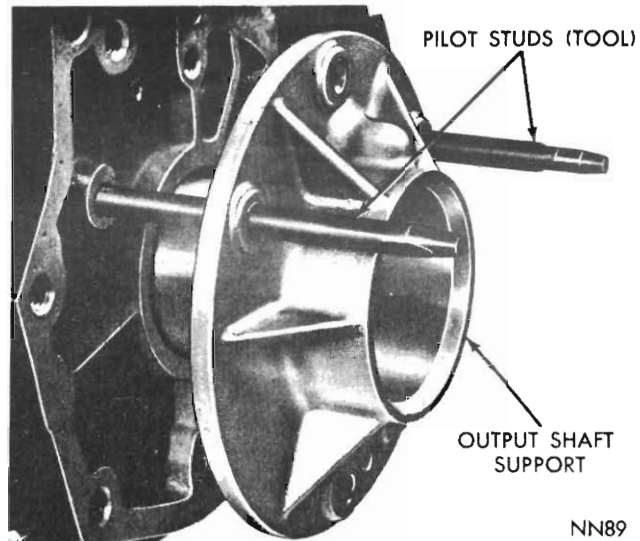

Fig. 89 - Installing output shaft support (A-904)
(7) Screw two pilot studs, Tool E21C35C, into the case (Fig. 89). Chill the support with ice (preferably dry ice). Quickly position support over the pilot studs, and drive it firmly into the case with a wood block and hammer.